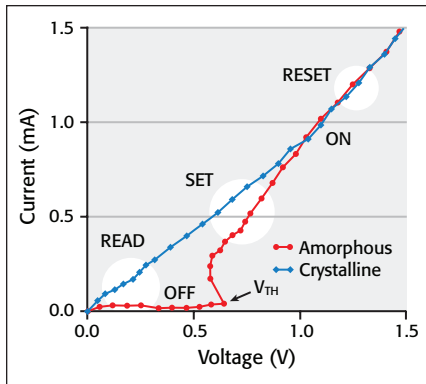

Figure 4. Example of I-V current voltage sweep [3].
- **I-V (current-voltage) curves** – Here, the voltage sent through a DUT previously RESET to its highly resistive state is swept from low to high (*Figure 4*). The dynamic switch from a high- to a low-resistive state in the presence of a load resistor produces a characteristic RI curve with a snapback, an area of negative resistance. Snapback itself is not a feature of PCMs or of PCM testing but rather a side effect of the R-load technique that has long been used to obtain both RI and I-V curves.